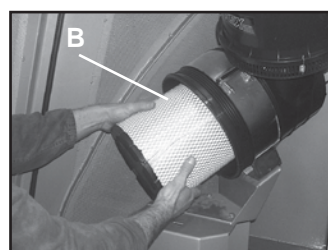

Fig.3
2) Take out the filter (B fig.3) by rotating and pulling it, and clean or replace it (see maintenance table).